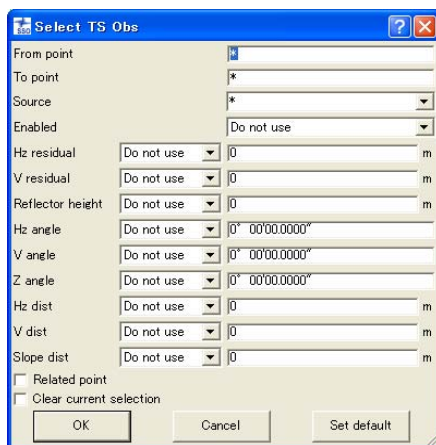

Figure 4-42. Select TS Observations
On the **Select TS Obs** dialog box, enter the following information and click **OK** (Figure 4-42 on page 4-43).
- Click **Set default** to apply the defaults shown in Figure 4-42.